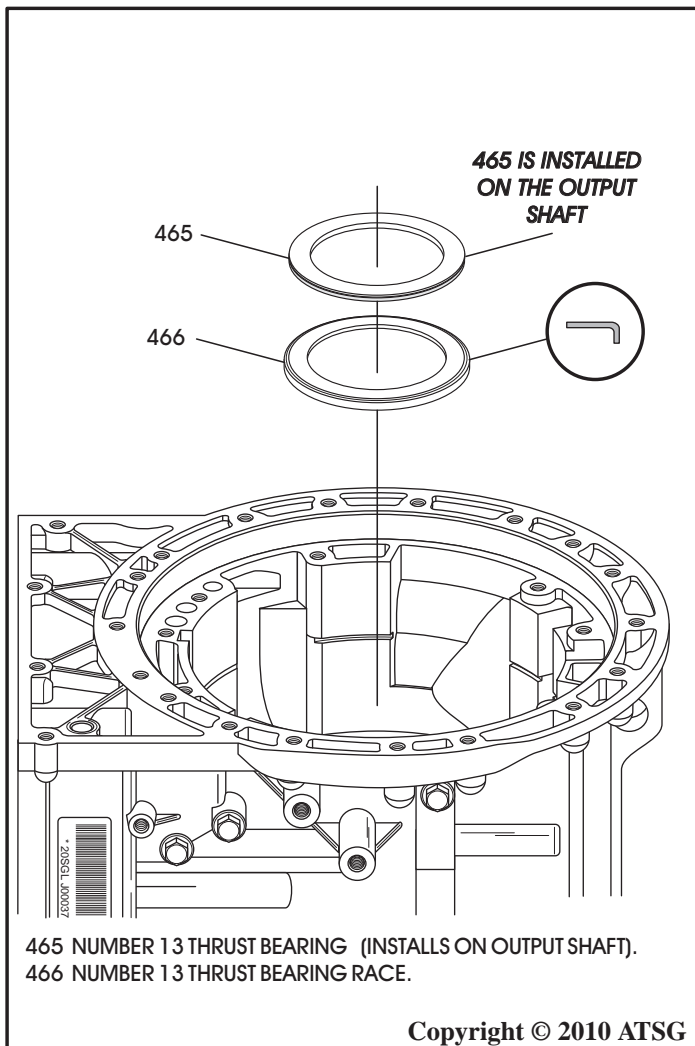

Figure 86
19. Install the number 13 thrust bearing race into and over case boss, as shown in Figure 86, and retain with Trans-Jel®.